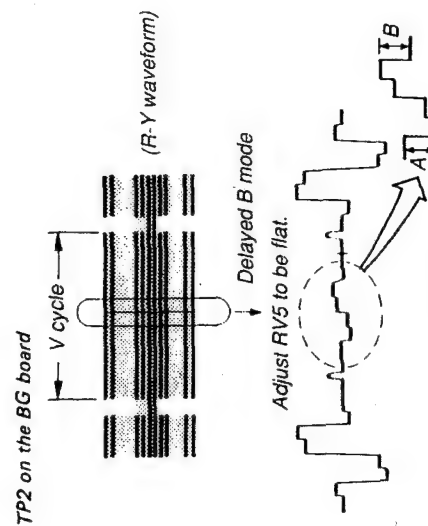

Fig. 24-2.
4. By observing the waveform shown in Fig. 24-2, adjust RV9 on the BD board so that it becomes A=B.
5. Adjust RV5 on the BD board so that the waveform shown in Fig. 24-2 becomes flat.